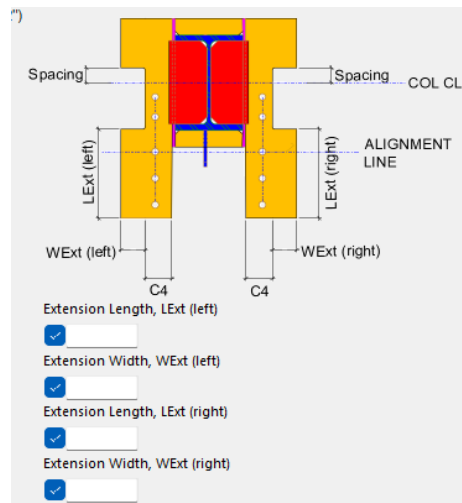

Figure 41. R8 Extended External Continuity Plate Option
- To extend the left ECP only part of the length of the plate (see length indicated in Figure 41), enter the length in the **LExt (left)**. This will only extend the plate as shown in the figure.